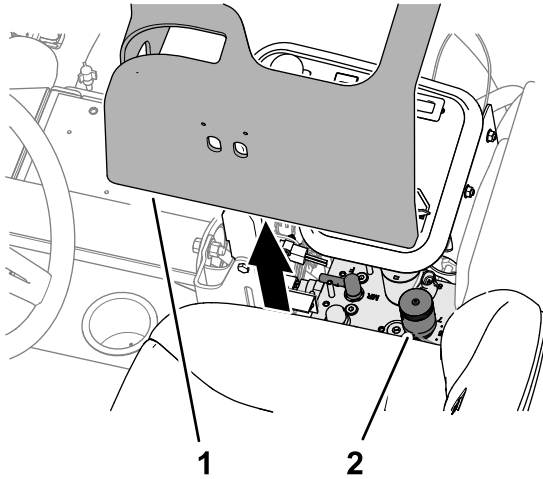

Figure 46
2. Lift the cover from the control arm (Figure 46).